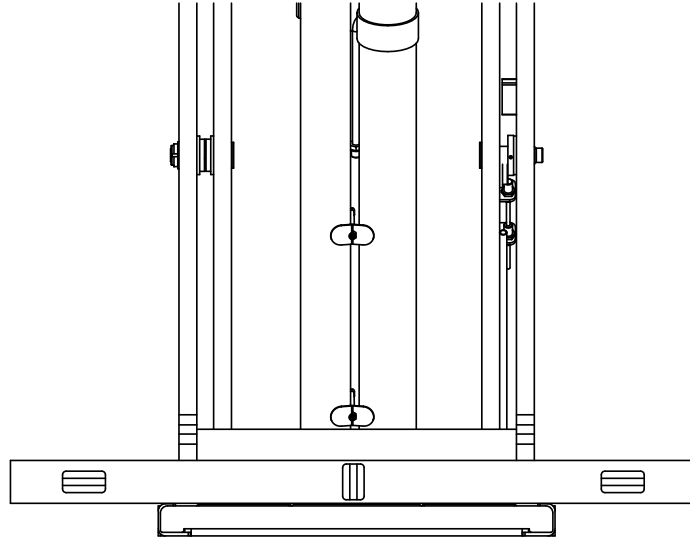

Fig. 5
2. Verify platform base is level, Fig. 5.